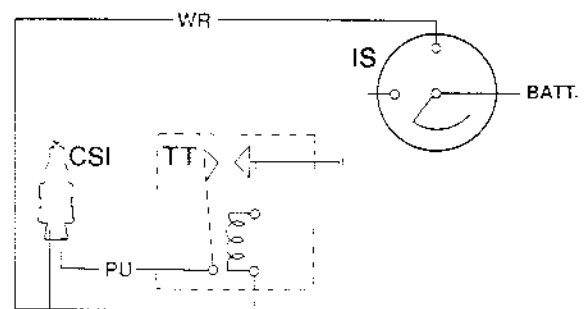

Fig.7 Thermotime switch
The thermotime switch (TT) seen in fig.7 contains a pair of contact points, one of which is mounted on a bi-metal strip. A heater coil is fitted around the bi-metal strip.